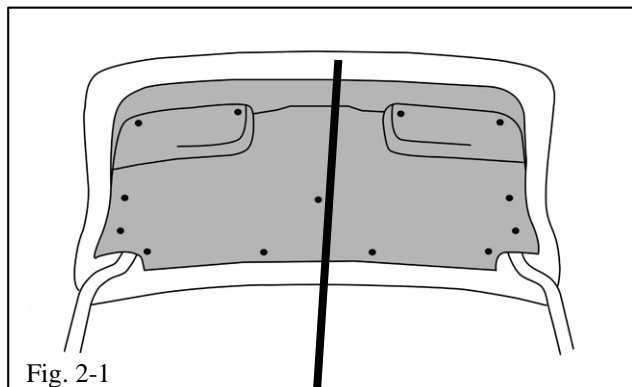

Fig. 2-1
- ⚠ (a) Open the trunk fully and use a support bar to keep the trunk lid from closing during installation (Fig. 2-1).